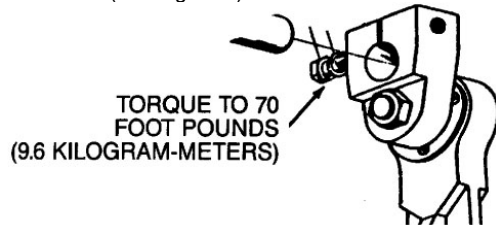

Figure 3
- c. Torque the crank lock screw (Ref. No. P6) to 70 foot pounds with an appropriate torque wrench (see Figure 3).